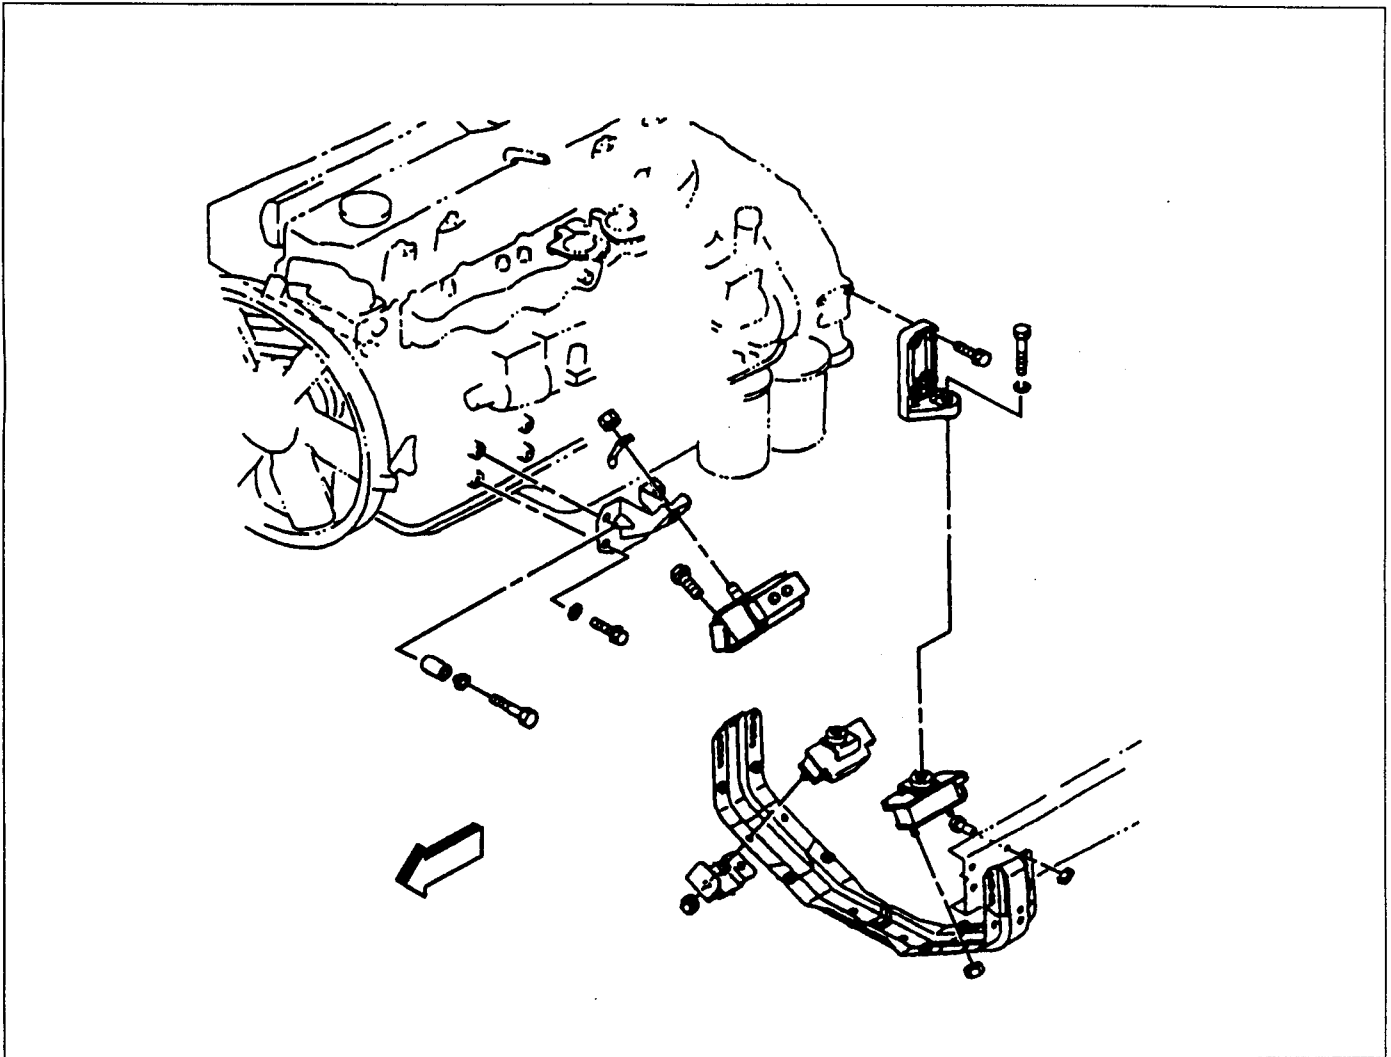

Figure 36 – Engine Mounts
4. Ring gear to the flywheel, as soon as it is heated (Figure 36).
Remove or Disconnect (Figure 36)
Install or Connect (Figure 36)